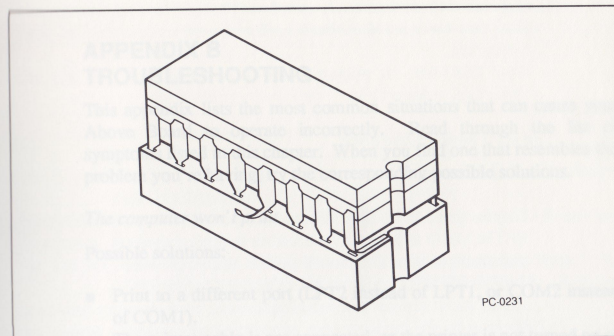

Figure A-5 *Bent pins*
- 6 Carefully examine the chip's pins. Look for any pins that are bent under or out. (See Figure A-5.) If you find bent pins, remove the chip, gently straighten them, and go back to step 2.
Carefully examine the chip's pins. Look for any pins that are bent under or out. (See Figure A-5.) If you find bent pins, remove the chip, gently straighten them, and go back to step 2.